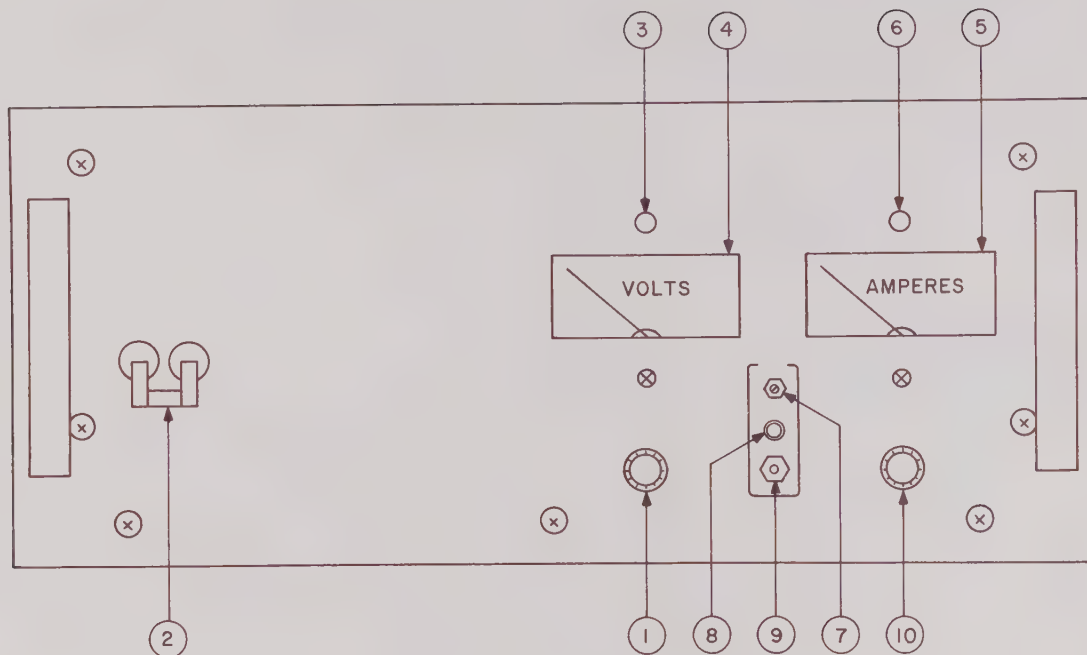
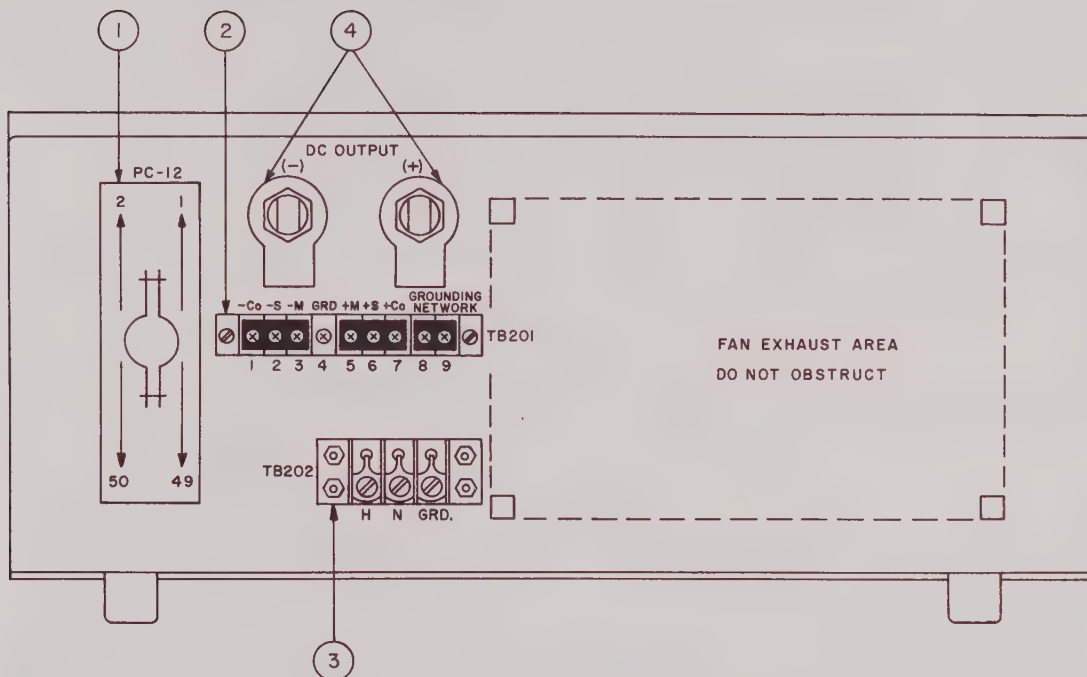

FIG. 2-2 CONTROLS AND TERMINATIONS, ATE FULL RACK GROUP, FRONT.
FIG. 2-3 TERMINATIONS, ATE FULL RACK GROUP, REAR.
- FRONT PANEL: Refer to FIG. 2-2 and Table 2-2.
- REAR: Refer to FIG. 2-3 and Table 2-3.
- 2-9 A simple operating check after unpacking and before permanent installation is advisable to ascertain whether the power supply has suffered damage resulting from shipment. Refer to FIG. 2-2 and to FIG. 2-3 for the location of the operating controls and output terminals.
- 4) To reset the adjusted crowbar point, press DISARM button again and advance VOLTAGE CONTROL clockwise. Note voltage at which the CROWBAR INDICATOR lights up. Readjust LEVEL control if necessary, by repeating step (2) and check again by repeating steps (3) and (4).
A resistor/capacitor network is connected from the negative monitor terminal to the metal chassis of the power supply. If this internal network is *not* desired, the connection to the chassis can be opened by removing the link (8)-(9) on TB201 (See FIG. 2-3).